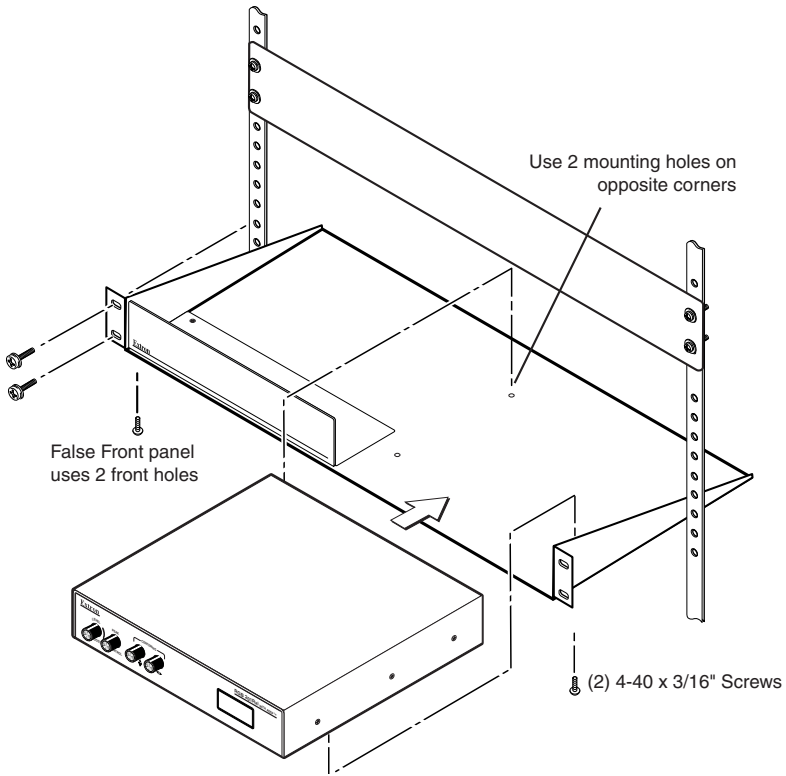

Figure 2-5 — Rack mounting
2. Place the interface on one half of the 1U (one unit high, 19" wide) optional rack shelf (part #60-190-01). Align the front of the interface with the front of the shelf, and align the threaded holes on the bottom of the interface with the holes in the rack shelf (figure 2-5).